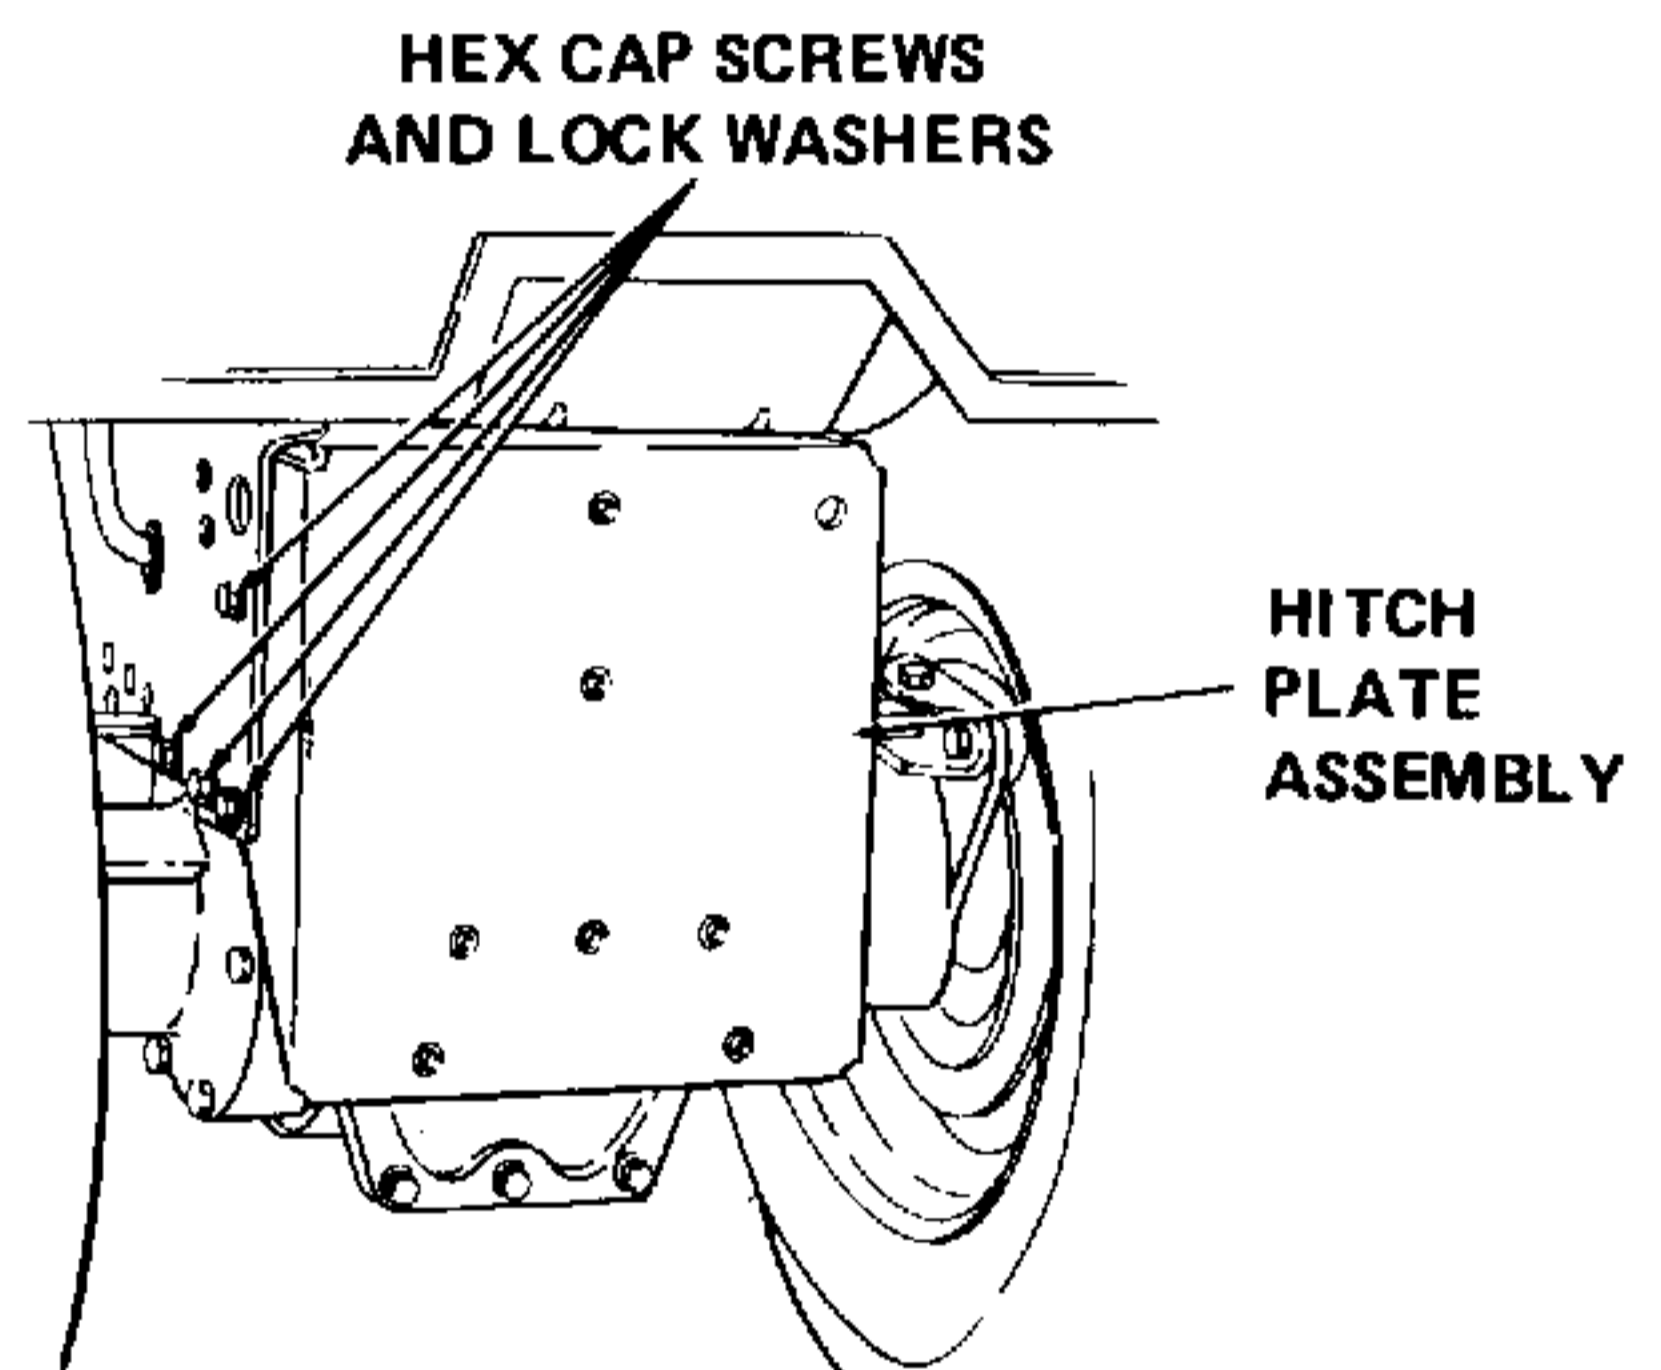

Figure 7-44. Removing Hitch Plate Assembly.
- Remove hitch plate assembly from tractor by removing four hex cap screws and lock washers. Refer to Figure 7-44.